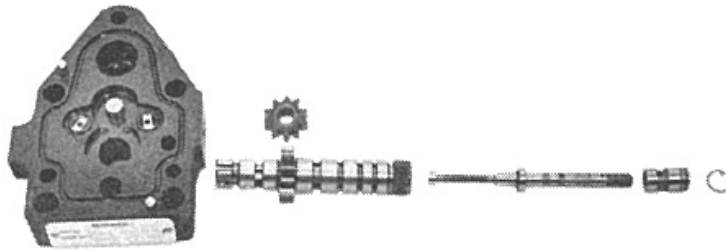
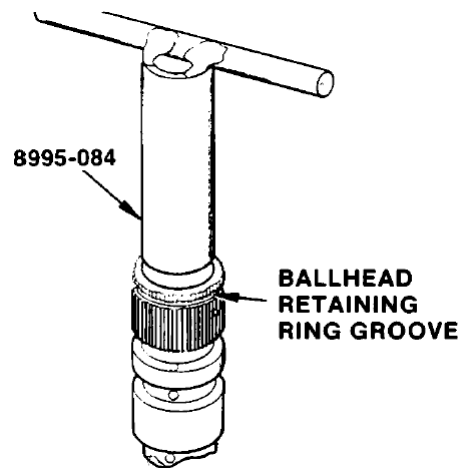

Figure 4-11. Pilot Valve Bushing Assembly
Figure 4-13. Seating the Retaining Ring
4. Assemble the pilot-valve plunger parts as shown in Figures 4-11 and 4-12. Use Waldes Truarc pliers to fit retaining ring into top of pilot-valve plunger. Seat the retaining ring into the inside groove with tool 8995-048. See Figure 4-13.